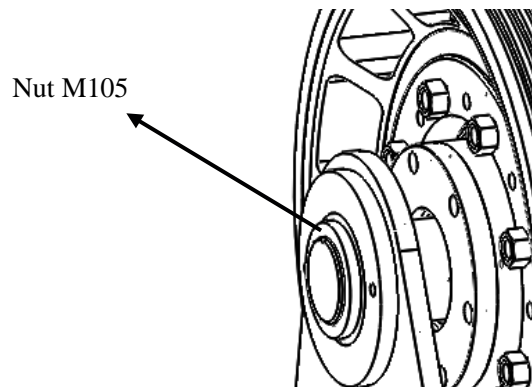

Figure 23 Remove the round nut M105.
6. Remove round nut M105x2 and washer 105 using Claw wrench. See figure 23.